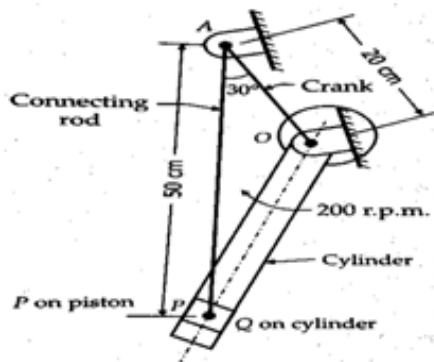

Figure 2
4. For the rotating cylinder engine mechanism as shown in Figure 2 determine the acceleration of the piston inside the cylinder, if the cylinder rotates uniformly at 200rpm. the crank OA is fixed. [14M]